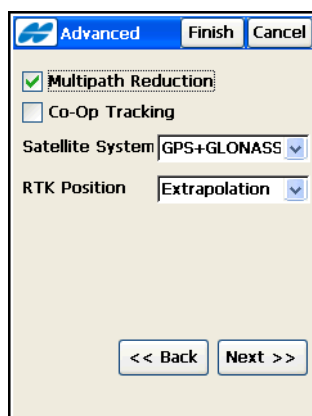

Figure 4-26. Advanced Parameters
16. Set advanced parameters for the survey (Figure 4-26 on page 4-20) and tap **Next**.